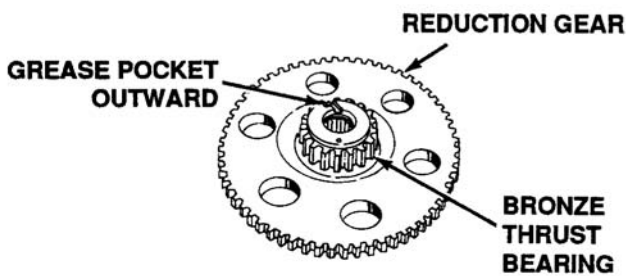

Figure 5-108. Reduction Gear Inspection and Replacement
12. Inspect reduction gear for any damaged teeth. Also inspect needle bearing in the center of gear. Replace if necessary. See Figure 5-108.